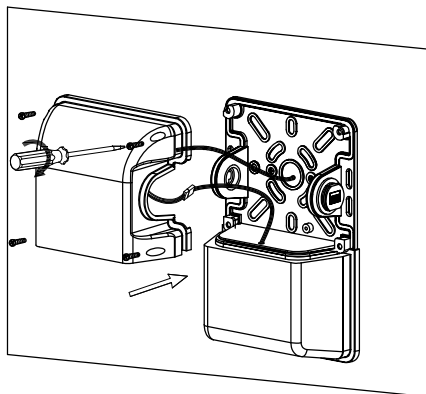

Fig 5
4. Connect the male and female connectors. Carefully & tightly attach the MWP front cover (driver box) back to the base by the 4xM3 screws. (Fig 5)